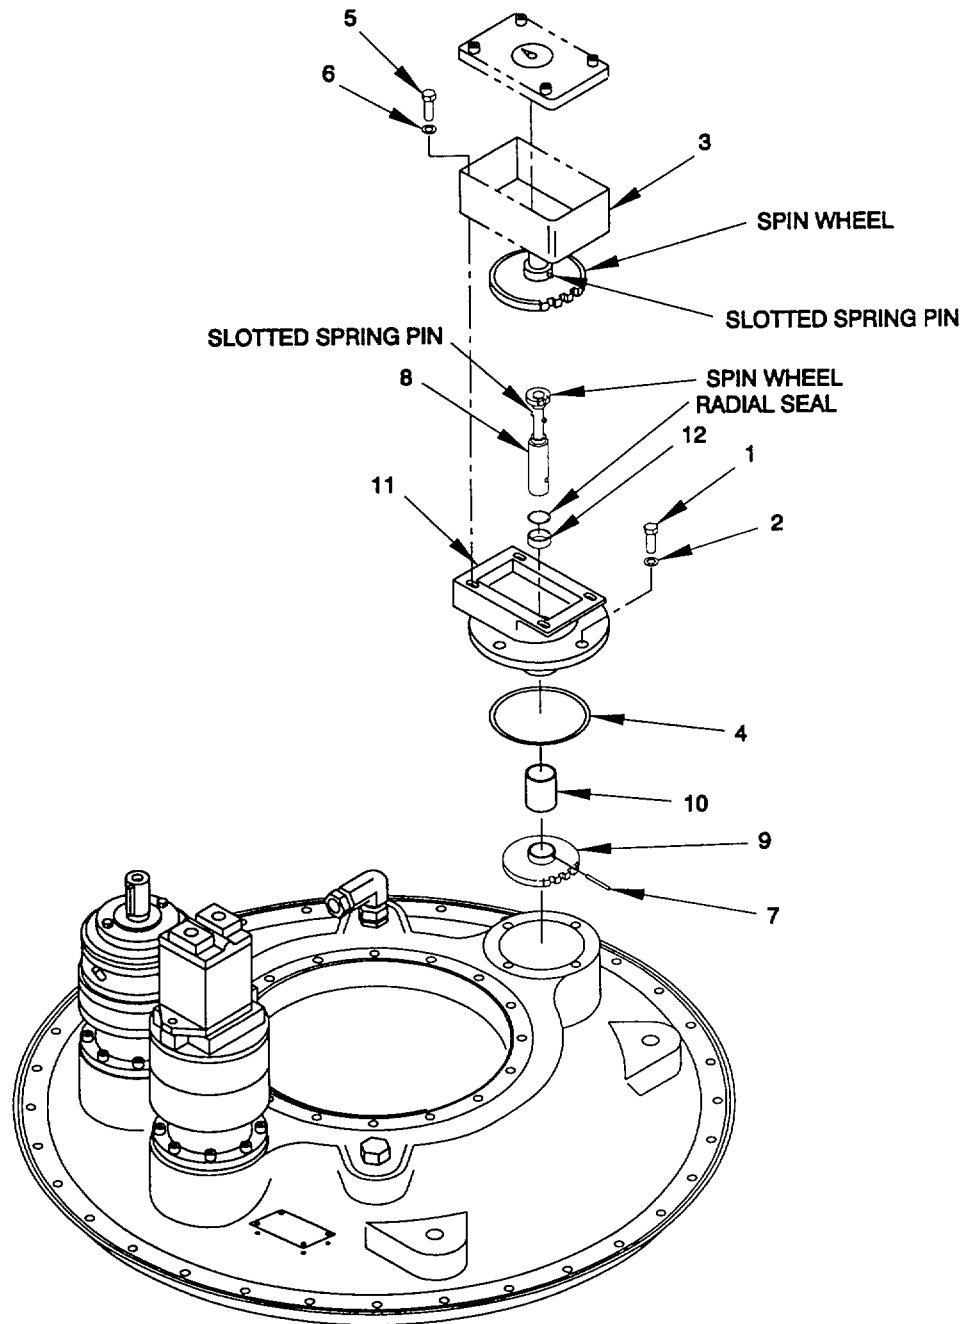

Figure 3-12. Feedback Unit, Remove, Service, Install.
a. Remove. (figure 3-12)
- (1) Disconnect and tag OUT OF SERVICE all electrical wiring to feed back unit.
- (2) Remove four hexagon cap screws (1) and collect spring washers (2) from base of gearing.
- (3) Lift feedback housing (3) and gearing assembly from pump-jet, being careful not to damage gears, and collect Preformed packing (4).
- (4) Remove four socket head cap screws from top plate of housing (3) to access components inside housing.
- (5) Remove three hexagon screws (5) and collect spring washers (6) from outside of console (11). Remove a fourth hexagon screw (5) from inside of console (11). Separate feedback housing (3) from gearing assembly.
b. Service. (Figure 3-12)
- (1) Remove feedback unit from housing (3) and disassemble (refer to paragraph a).
- (2) Turn gearing assembly upside down. Remove spring pin (7) from shaft (8) and collect spur wheel (9).
- (3) Remove bushing (10), console (11), and bushing (12).
- (4) Fill gearing chamber with grease.
- (5) Replace bushing (12), console (11), and bushing (10).
(6) Position spur wheel (9) on shaft (8) and secure with spring pin (7).
(7) Replace feedback unit per step (c).
c. Install. (figure 3-12)
(1) Install feedback unit (3) to gearing assembly and secure with four hexagon cap screws (5) and spring washers (6).
(2) Position Preformed packing (4) and feedback unit (3) and gearing assembly on pump-jet, being careful not to damage gears.
(3) Install spring washers (2) and four hexagon screws (1) in base of gearing assembly.